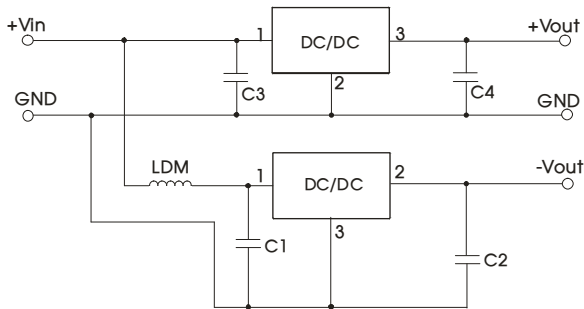

Fig. 3 Positive and Negative output parallelling application circuit
4. When the products used as the circuit like figure 3, an inductor named as LDM up to 10μH is recommended in the circuit to reduce the mutual interference.